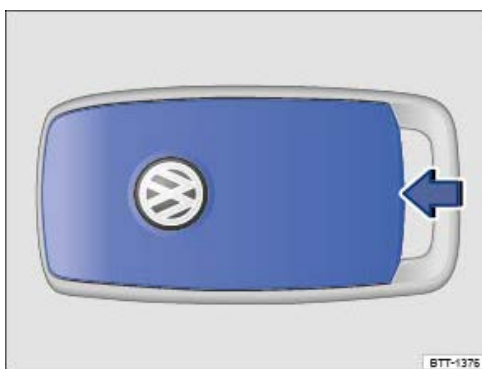

Fig. 126 Auxiliary heater: battery cover for the remote control.
- Insert a suitable object, e.g. screwdriver, into the recess at the side in the direction of the arrow → Fig. 126.